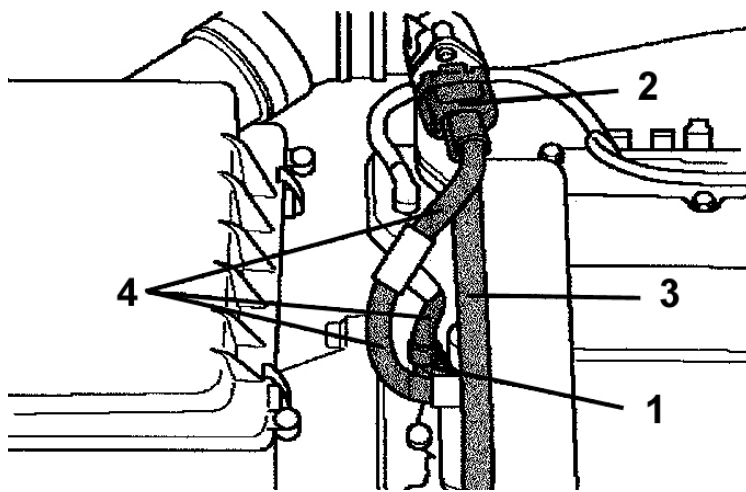

Fig. 1
- Remove the plug-connection from the temperature sensor (see Fig. 1, Item 1) and from the air mass sensor (see Fig. 1, Item 2).
- Remove the cover (see Fig. 1, Item 3).
- Remove the plastic sheathing and the insulating tape from the wiring harness (see Fig. 1, Item 4).